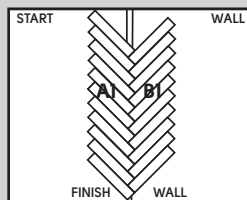

Fig. 6
7. Continue installing planks without cutting them, working in opposite directions. Verify that the installed planks are straight on the lines. (Fig 6). Carefully tap the plank/tile together flat on the floor (Fig 6).